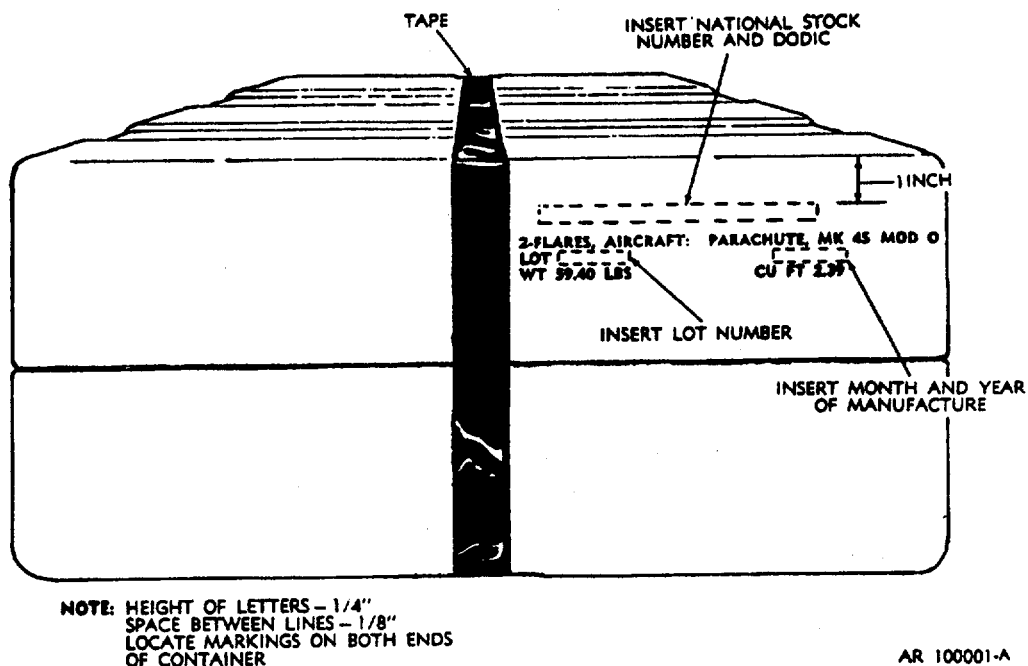

Figure 4-1. Marking for Mk 45 MOD O Parachute Aircraft Flare Container.
- b. Refer to figures 4-1 through 4-11 for location, height of lettering and applicable data pertaining to markings